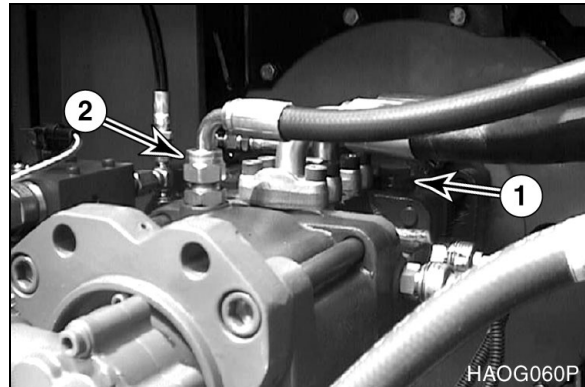

Figure 99
1. With the engine stopped, remove vent plug (1, Figure 99) to see if any oil is present.
2. If oil is not present, remove drain hose (2, Figure 99) and fill pump with oil through port.
3. Install vent plug (1, Figure 99) first, then connect drain hose (2, Figure 99).
5. Slowly loosen vent plug (1, Figure 99) several turns, until hydraulic oil flows out of plug. This shows that air has been released.
6. Tighten the plug (Figure 99).